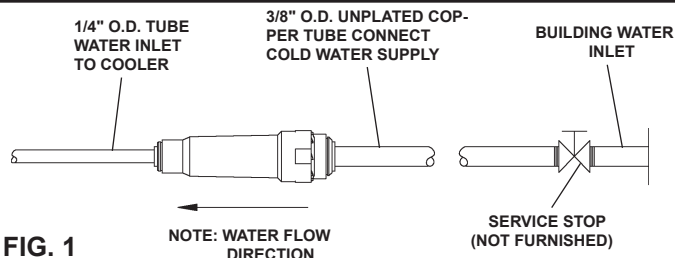

FIG. 1
7. Connect drain and water supply lines to the freeze resistant fountain. Inline strainer must be used on the inlet water line. See Figure 1.